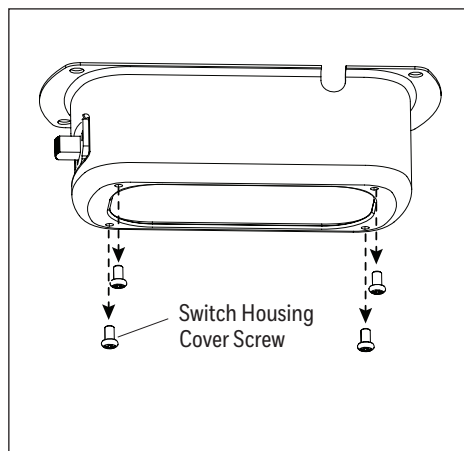

Figure 5.7
7. Remove the four switch housing cover screws preassembled to the switch housing. Set aside for later (Figure 5.7).